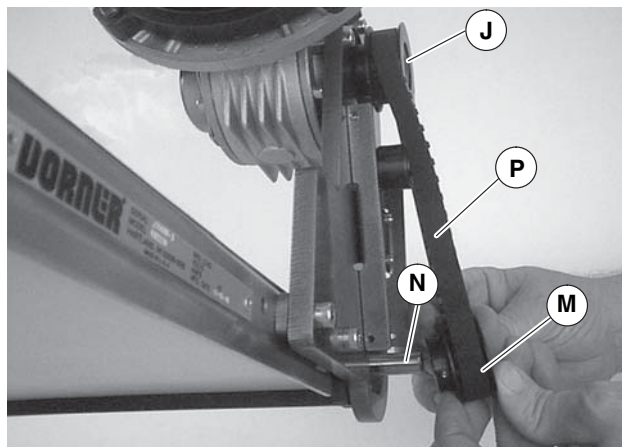

Figure 14
6. Install key (Figure 14, item N).
7. Wrap timing belt (P) around driven pulley (M) and drive pulley (J). Install driven pulley (M) onto conveyor shaft.